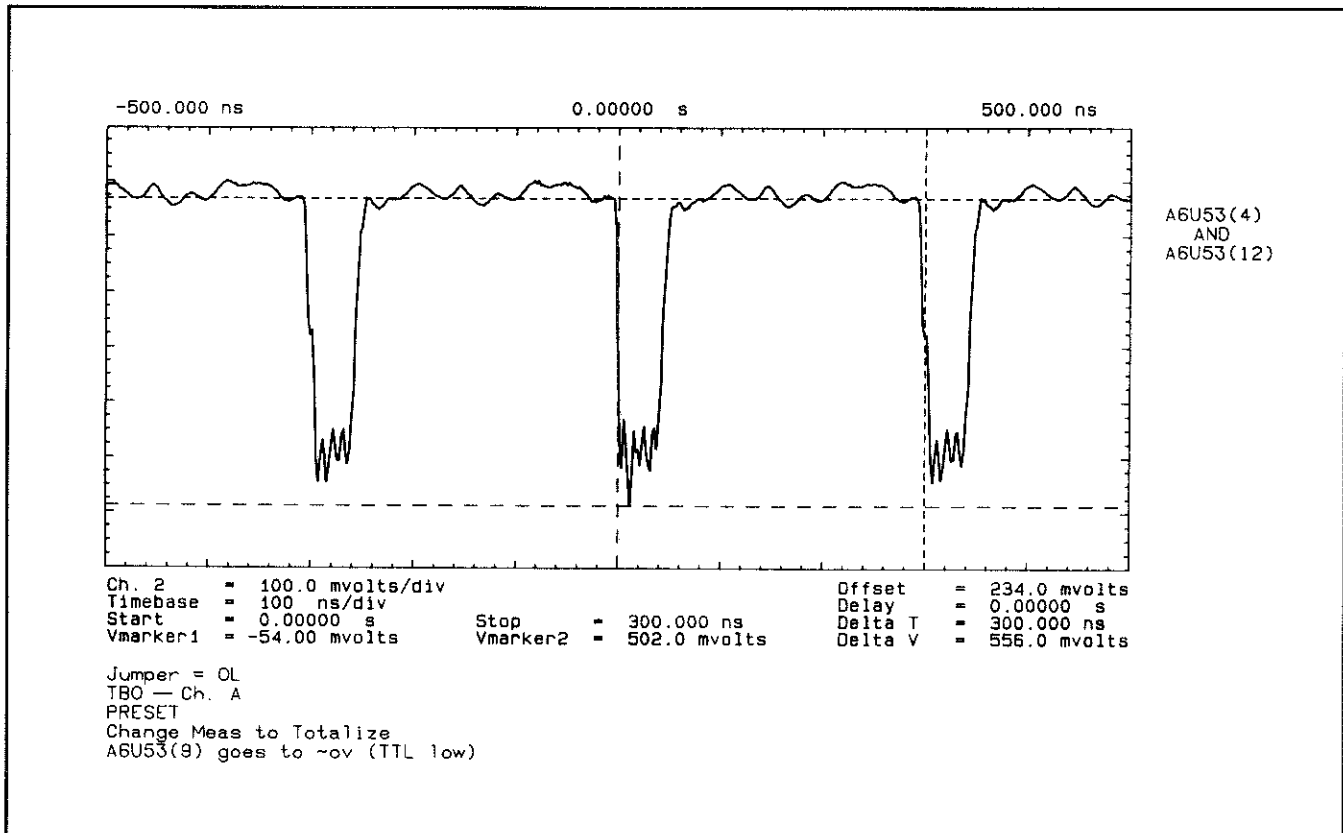

Figure 7F-26. Waveforms at A6U53(4,12)
- Jumper Position = Open Loop, Timebase Out to Channel A Press PRESET. Observe that signal at A6U39(3) is as shown in *Figure 7F-27*. (Rep Int=300ns) Change measurement to Totalize, check that A6U39(3) goes to TTL Low.